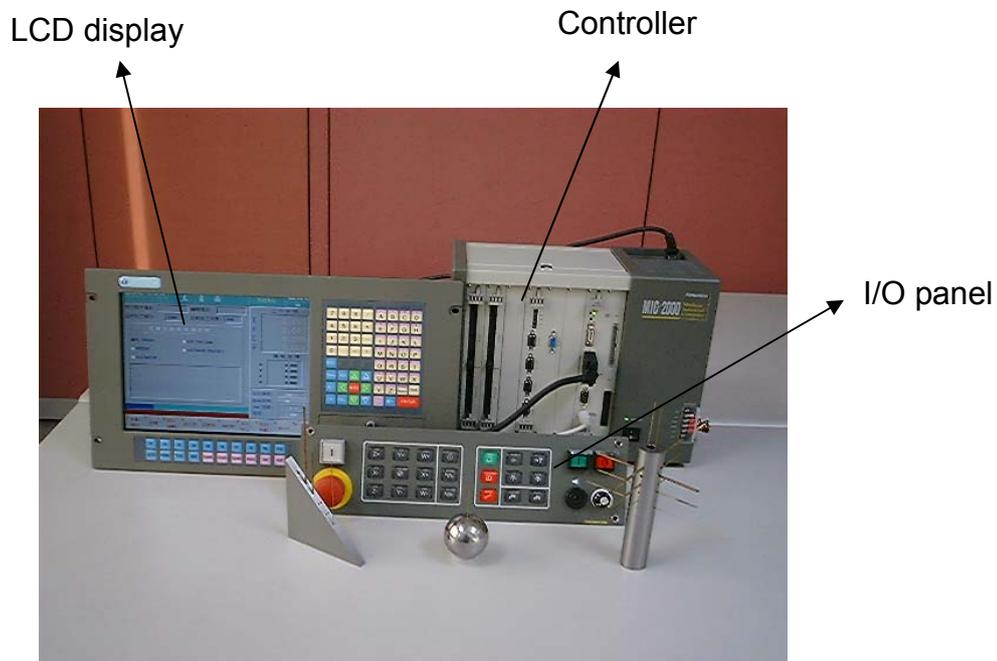

Figure 1-2-1 System Hardware
The system hardware is divided into (1) controller, (2) LDD display panel, and (3) I/O panel. Please see Figure 1-2-1 as shown below.
(1) Controller